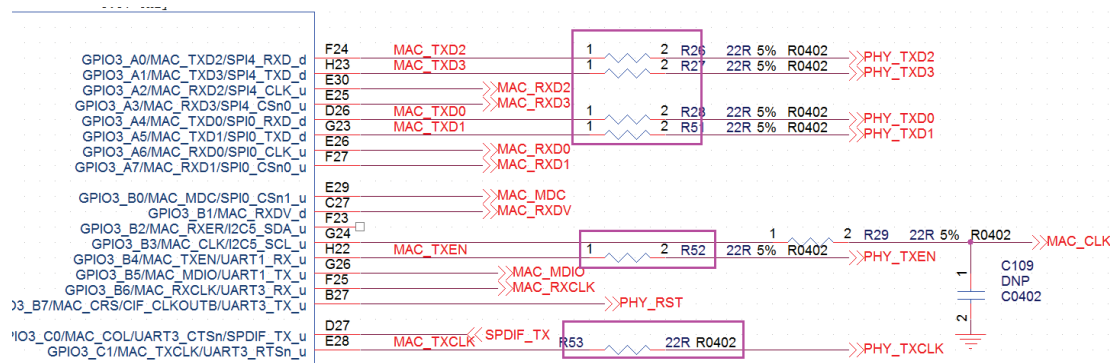

Figure 4-46 MAC TX Series Resistor
- The series resistor should be placed close to RK3399, shown as Figure 4-46.